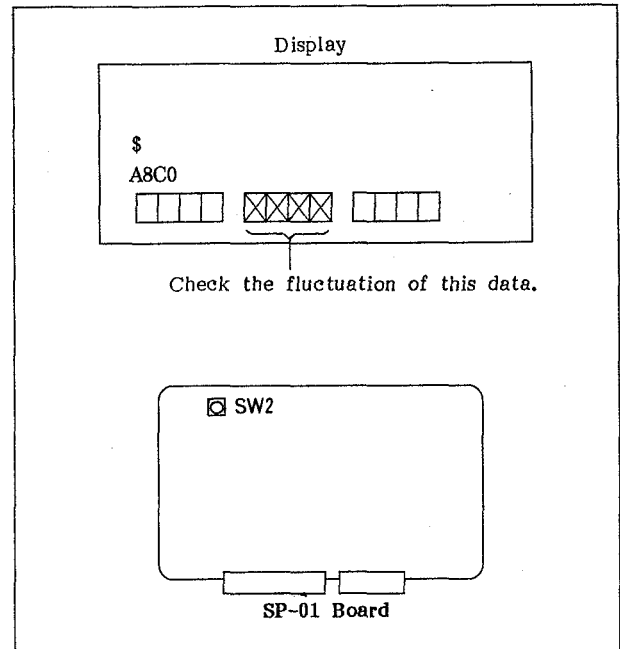

Fig. 9-10 Tape Speed Adjustment
- Press the **TEST**, the **F3** (CHECKER), the **F1** (CONTINUE), **F3** (C), the **F2** (B), the **SET**, the **F7** (\$), and the **SET** keys on the control panel in that order.
- Adjust the value indicated at the place on the display of the upper portion of Fig. 9-10 marked by X by using the **<** or **>** key so that it fluctuates around 0000.